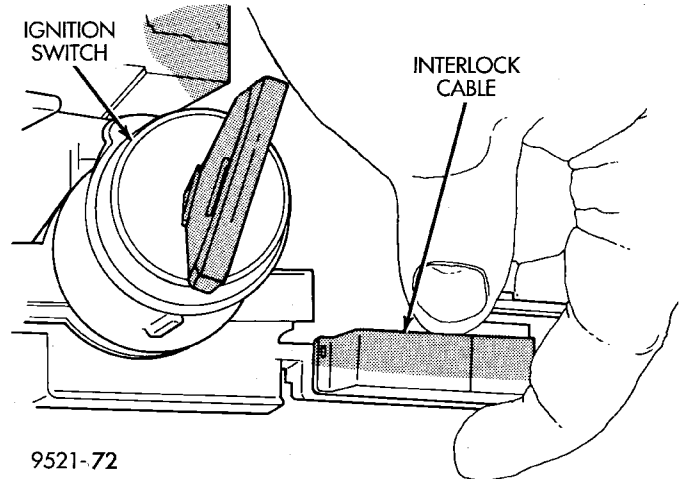

Fig. 27 Interlock Cable at Interlock Housing
- (1) Route interlock cable into lower dash panel.
- (2) Install the ignition switch into housing. Turn the ignition switch to the RUN position.
- (3) Install the interlock cable into the interlock housing at the steering column (Fig. 27). Verify the cable snaps into the housing.